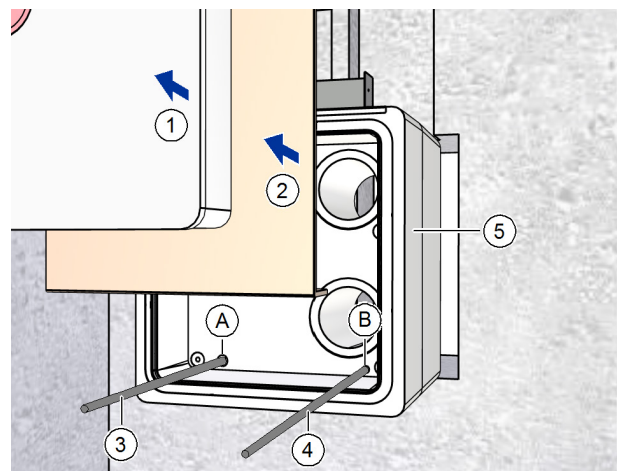

Fig. 12: Inserting the wall box
- ▶ Remove the protective cover (item 1 in Fig. 12) and the cardboard insert (item 2 in Fig. 12) from the wall box (item 5 in Fig. 12).
- ▶ Thread the mains cable (item 3 in Fig. 12) through the hole A (item A in Fig. 12).
- ▶ If necessary, use a screwdriver to punch through the sealed hole (item B in Fig. 12).
- ▶ Thread the control cable, if required (item 4 in Fig. 12) through the hole B (item B in Fig. 12).
- ▶ Push the wall box (item. 5 in Fig. 12) fully into the wall breakthrough.